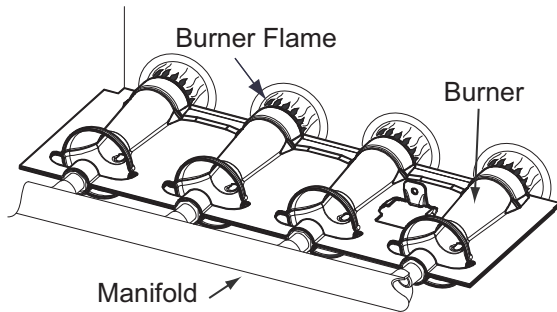

Fig. 5 – Burner Flame Adjustment
6. The burner flames are in good adjustment, See Fig. 5 (by comparison with pictorial sketches or drawings of the main burner flame).